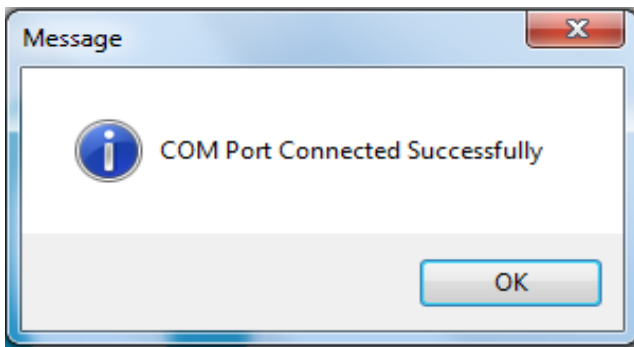

Figure 18
- Then to establish connection click on  button. Once the connection is opened successfully, the window will open as shown in Figure 18. If connection is disconnected then user will get message as shown in Figure 19 Then click OK button.